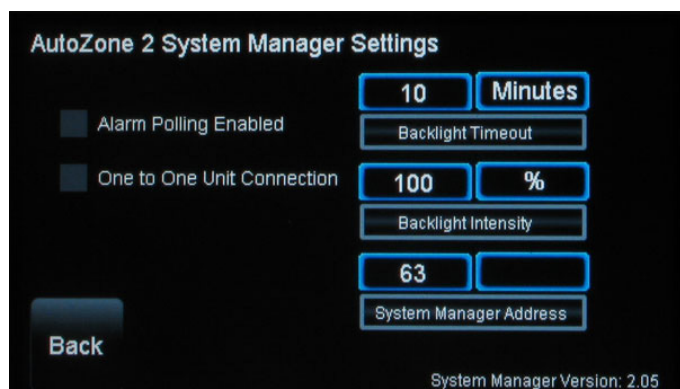

Figure 40: System Manager Settings Screen
NOTE: System Access will automatically default to **System Secured** after time set for **Backlight Timeout** in the *System Manager Settings Screen* (see **Figure 40**). If timeout is set to zero, the passcode will timeout after two minutes.
From the *Main Screen*, touch the **<Settings>** icon. The *System Manager Settings Screen* will appear. See **Figure 40**.
1. **Alarm Polling Enabled** must be selected in the *Systems Settings Screen* (see **Figure 40**).